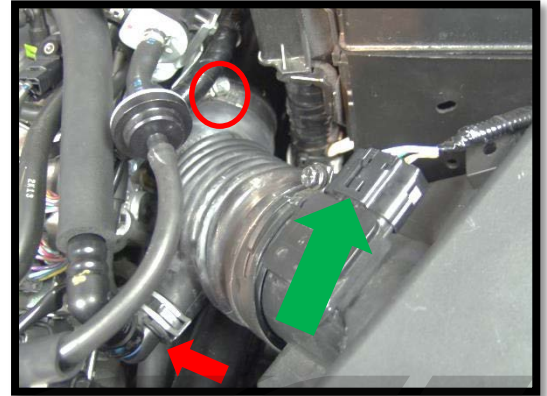

Figure 1e
f) **Remove the intake.** Loosen the hose clamp connecting the intake elbow to the turbo inlet pipe with a 10mm socket wrench (red circle in Figure 1e).
g) **Remove the breather pipe from the valve cover** (red arrow in Figure 1e) and unplug the MAF sensor (green arrow in Figure 1e).